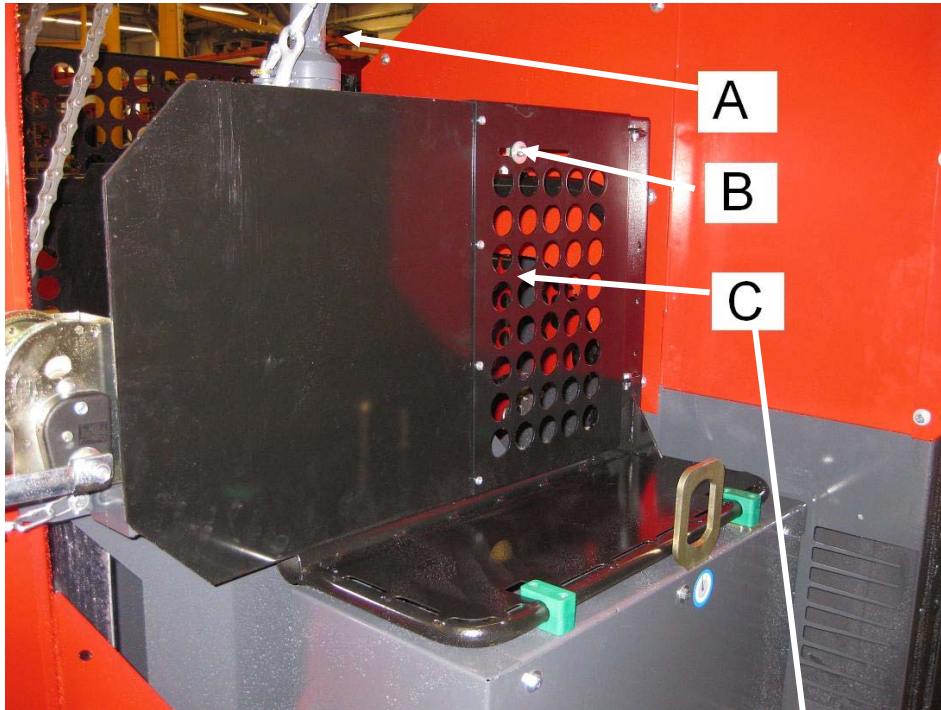

Fig. 15
9.2 Changing the wedge cassette (Power 90sG model), Figs. 15, 16 and 17
1. Open the rear cover B, Fig. 15.
3. Unreel the winch, Figs 15 and 17.
4. Lift out the used wedge cassette using the winch C and the lift beam A and put the new cassette into place, Figs 15 and 17.